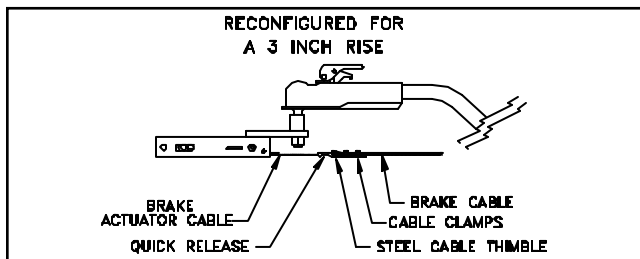

Figure 4
The AutoStop can be reconfigured to give a three (3) inch rise as shown in Figure 4.